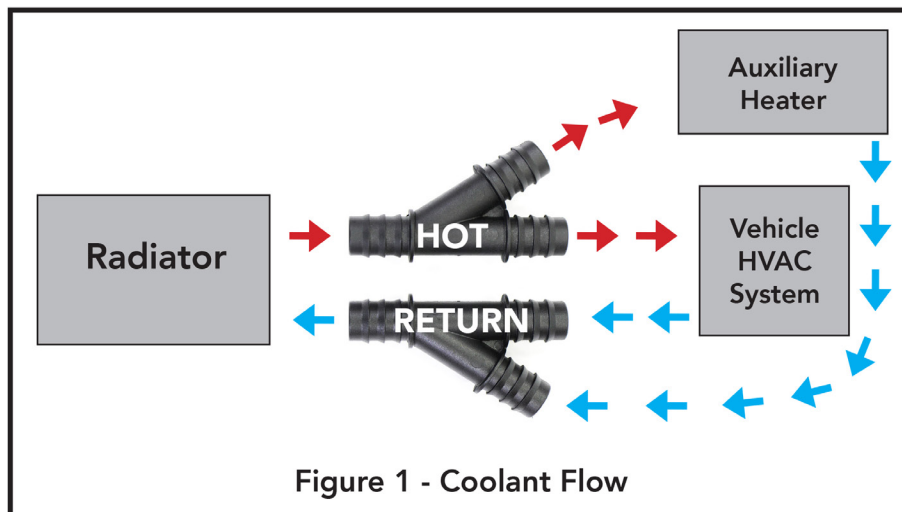

Figure 1 - Coolant Flow
8. Install the Y splicers into the main heater lines. It is very important that you install the Y splicers with the direction of the coolant flow - see Figure 1 on Page 2.